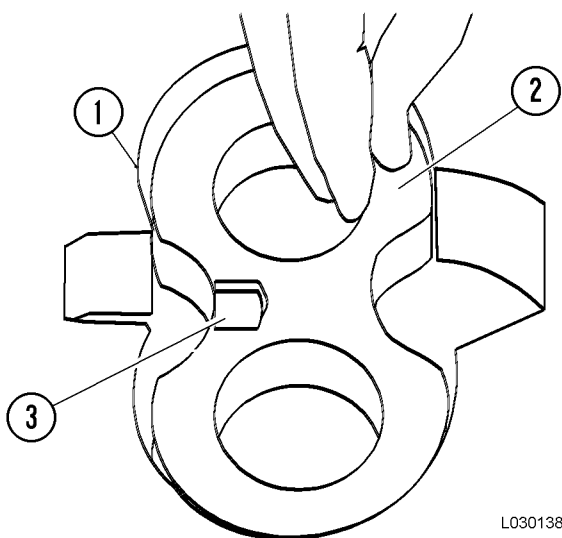

FIGURE 3-13. PRESSURE PLATE INSTALLATION
11. With the bronze side up and the milled slot facing toward the discharge side, slide pressure plate (2, Figure 3-13) down into the gear bores until it rests on the backup ring and O-ring. Do not force the plate down the gear bores. If it hangs up on the way down, work it back and forth until it slides freely into place.